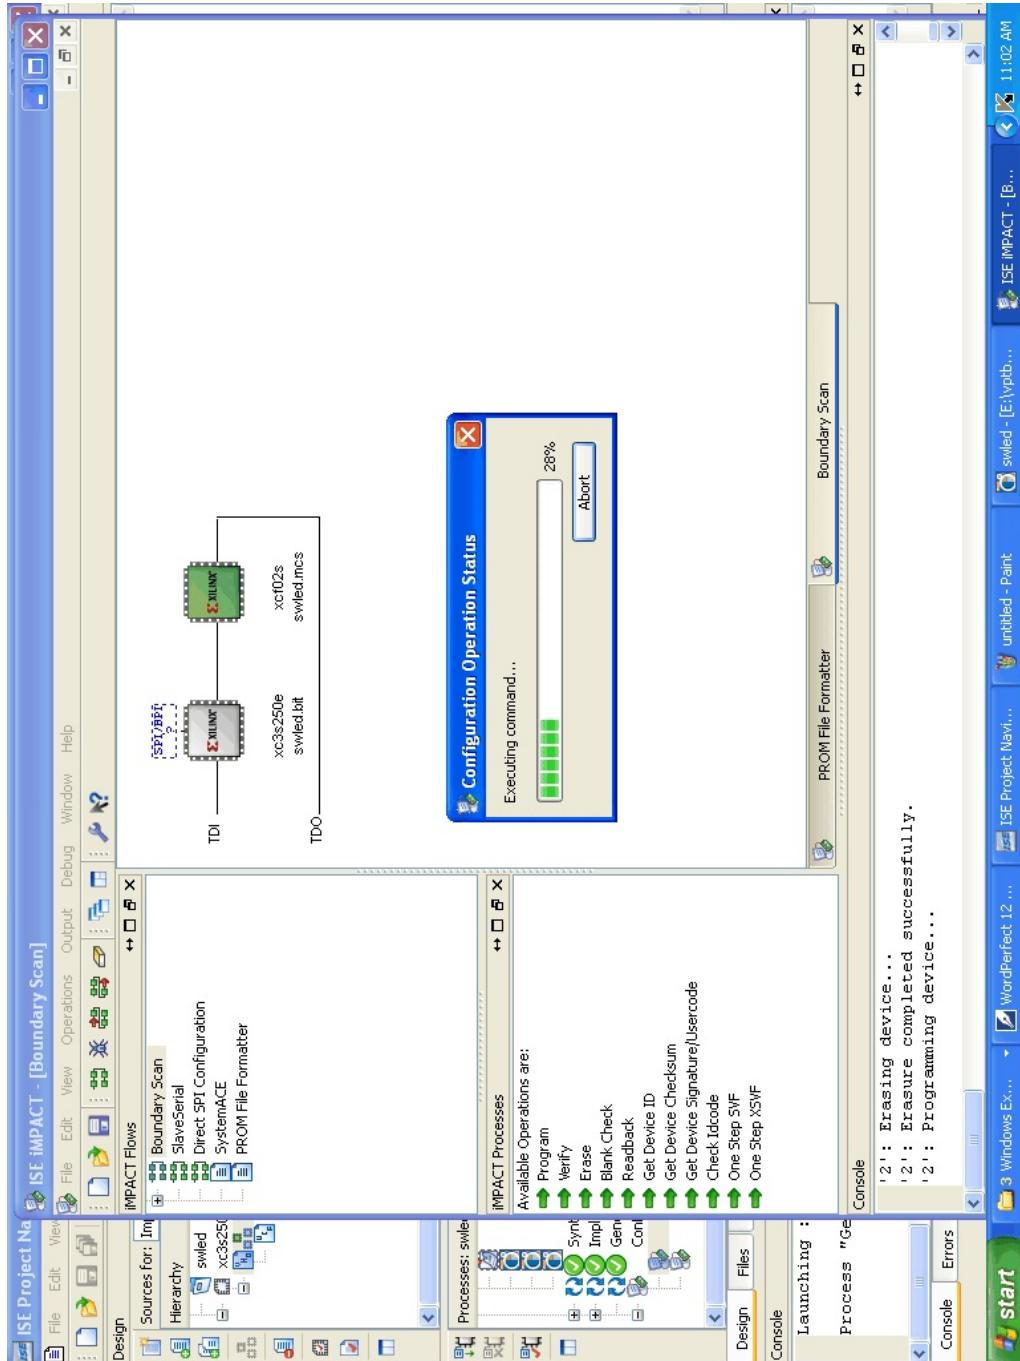
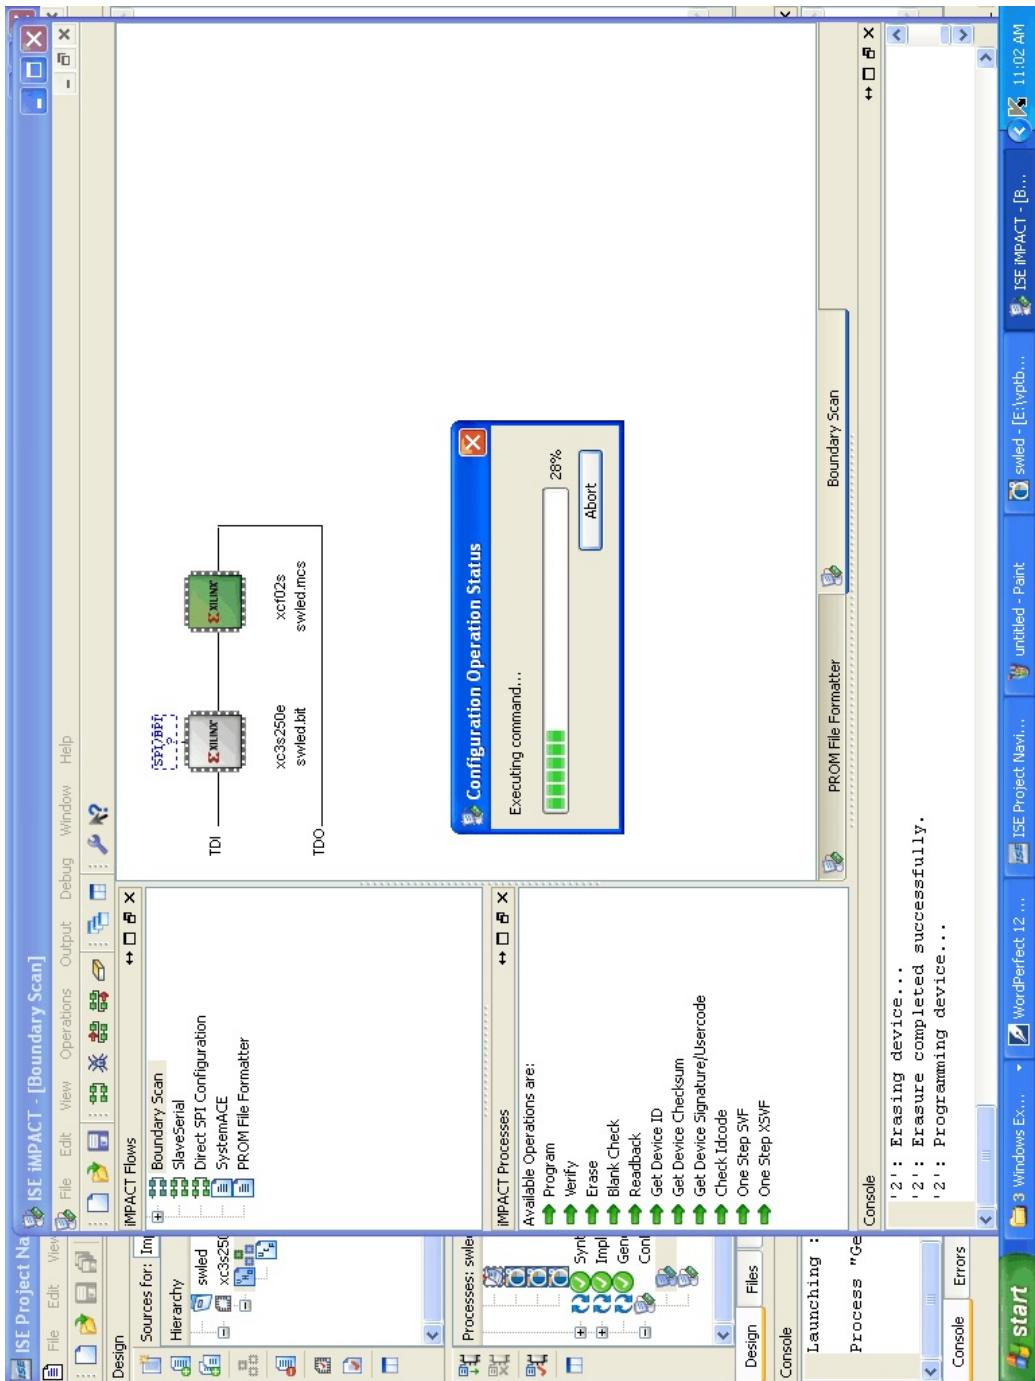

Figure-65
Figure-66
28. Then a window named **Configuration Operation Status** with *percentage level* shown in **Figure-65** will appear and it starts downloading your program into the hardware. After the *percentage level* reaches 100% program is downloaded successfully into the device and the message "**Program Succeeded**" will appear in bold. (refer **Figure-66,67**).